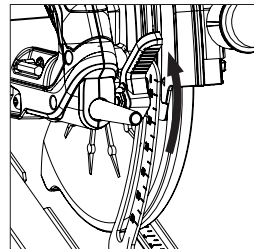

Fig. 10
- Loosen the Depth Adjustment Locking Mechanism by pulling the operating lever upwards. **(Fig. 10)**